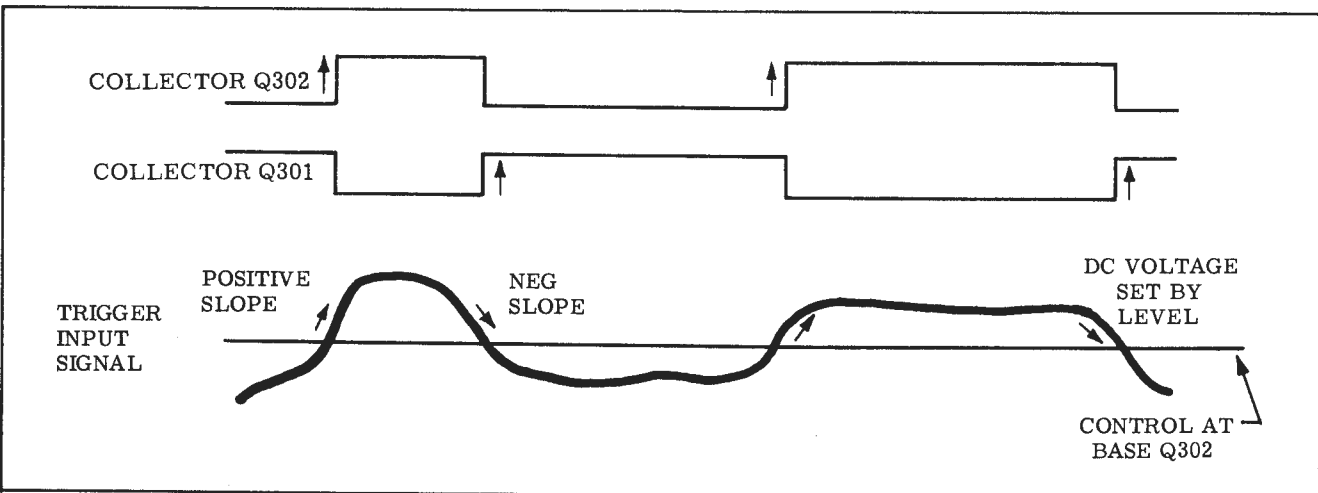

Figure 5-3. Trigger Amplifier Waveforms
b. Input signals at the base of Q301 are compared to the dc voltage set by the LEVEL control, at the base of Q302. When the input signal swings more positive than this dc level Q301 conducts while Q302 does not. When the input signal swings below this level Q302 conducts and Q301 does not. This is shown in figure 5-3 along with the resultant collector waveforms.